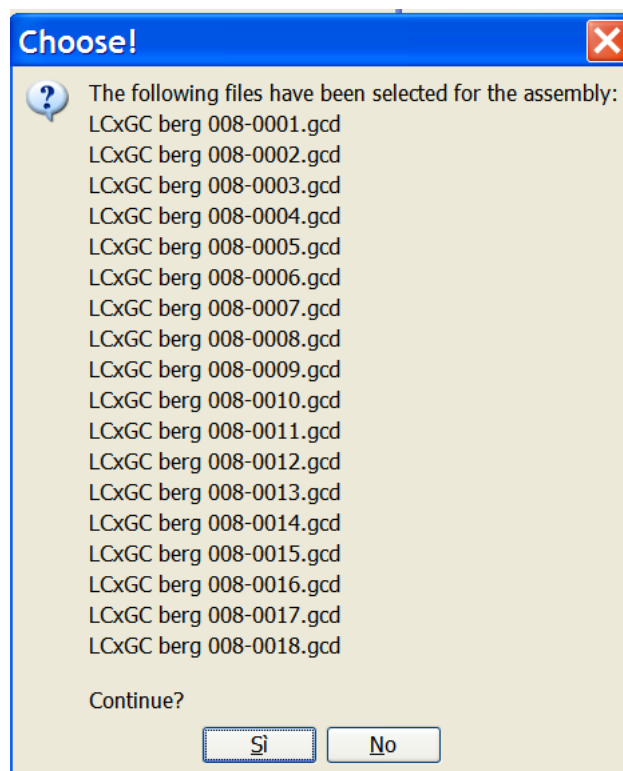

Figure 11.21: Asking for confirmation before assembling
5. Press Ok when the desired configuration is achieved. A new dialog box is finally shown, asking for confirmation (see Figure 11.21).